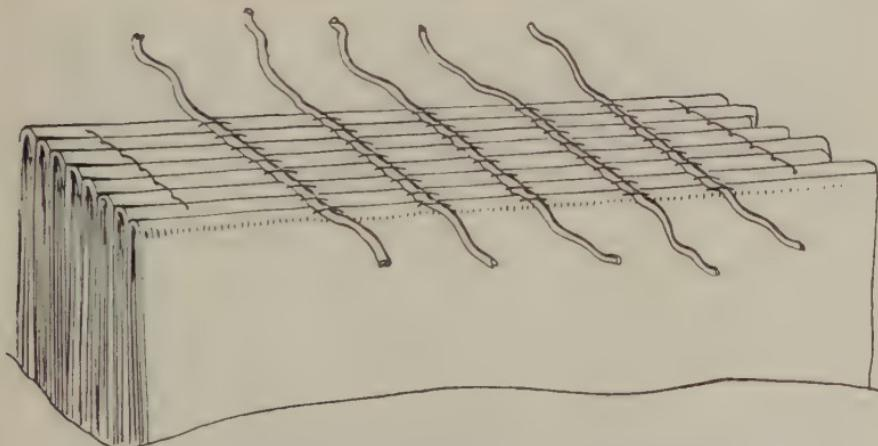

FIG. 175—SEWED BOOK WITH BANDS OR CORDS "CUT-DOWN"
3. Cut off cords $1\frac{1}{2}$ " from under side of book. This leaves your book like Fig. 175.